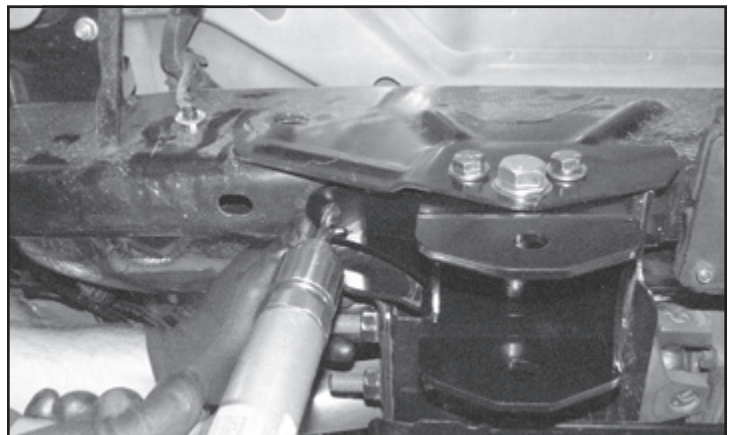

FIGURE 43 - STEP 48
48. Using the Fabtech the radius arm drop bracket as a drill guide, drill a 1/2" hole through the bottom of the frame. **SEE FIGURE 43**